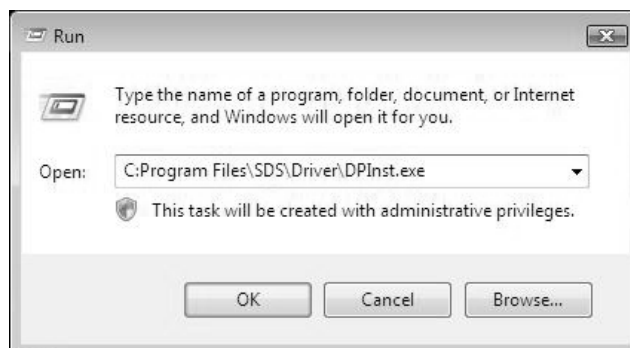

Fig.21
2. Enter [C:\Program Files\SDS\Driver\DPInst.exe] into Open column. (Fig.21)